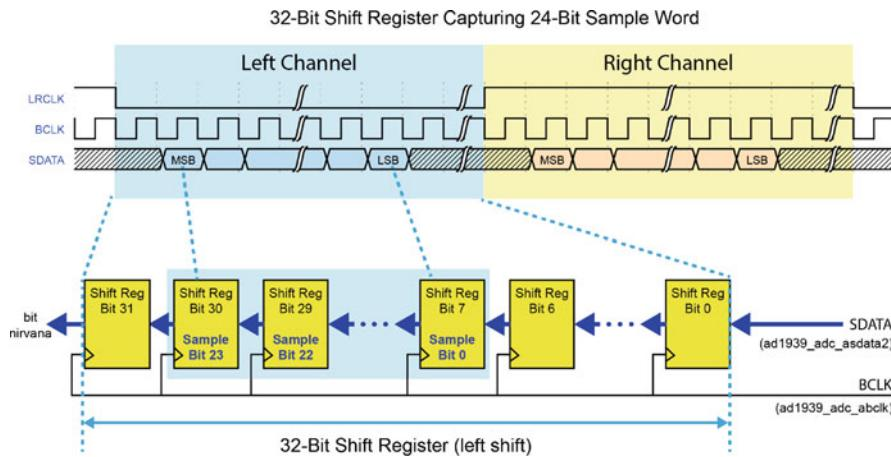
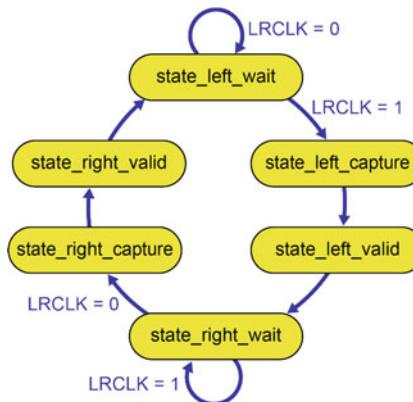

Fig. 1.3: Converting the serial I2S data into parallel 24-bit sample words
Fig. 1.4: State machine used to capture the 24-bit I2S audio words using the LRCLK signal as shown in Fig. 1.3
The first step in processing the I2S serial data coming into the FPGA (see signals in Table 1.1), which is shown in Fig. 1.2, is to perform a serial to parallel conversion of the 32-bit framing window that contains the 24-bit sample word. This is done using a shift register as illustrated in Fig. 1.3. The shift register is configured so that the bits enter from the right side and shift left. Thus, when we capture the 24-bit sample word (by capturing all 32 bits in the left/right framing window), the MSB will be on the left side, i.e., bit 23 of the extracted signal will hold bit 23 of the ADC sample. The shift register is 32 bits since there are 32 BCLK cycles in each of the left and right framing windows that are controlled by the LRCLK framing clock.
It should be noted that the 24-bit signal still has bits shifting through it on every rising edge of the bit clock. The 24-bit word only has the correct bits for the sample word when it is positioned correctly in the 32-bit left/right framing window. This is where the LRCLK signal comes into play (see Fig. 1.3). When the LRCLK clock signal (ad1939_adc_alrclk) transitions from low to high, the 32-bit shift register is full of left data, and this is the time to capture the left sample value. This timing is done by the state machine contained in the AD1939_hps_audio_mini.vhd component, which is illustrated in Fig. 1.4.
As soon as the LRCLK goes high (see Fig. 1.3 and associated VHDL code in Listing 1.5), the state machine transitions immediately through states *state_left_capture* and *state_left_valid*, taking only one system clock cycle for each state. It is in these states that we create the Avalon Streaming signals, which is described in the next section.
When the state machine is in the state *state_left_capture*, it saves the 24-bit sample word into the output signal *ad1939_adc_data* since the 24 bits are correctly aligned in the 32-bit left/right framing window. The output signal *ad1939_adc_data* is the data channel of the Avalon Streaming interface as shown at the bottom of Fig. 1.3, and it keeps this value until the state machine enters the *state_left_capture* again and captures a new value. In the next state *state_left_valid*, the Streaming Interface signals *valid* (1) and *channel* (0 for left) are sent out. The associated VHDL code is shown in Listing 1.6. The state machine then deals with the right channel in a similar manner before repeating the left channel states again.
The parallel to serial conversion is performed by a 32-bit shift register that performs the inverse of the serial to parallel shift register discussed in Sect. 1.2.1.1. The parallel to serial shift register also shifts left since the MSB needs to come out first. However, there is a control signal *load* that when asserted (1) loads the 32-bit word into the shift register. When *load* is deasserted (0), the shift register shifts left each bit clock cycle. It turns out that LRCLK signal (see Fig. 1.3) is exactly what we need for the load signal since we want the load signal to be low during the left frame to shift out the left channel bits. The right channel is done similarly except we need the inverse of the LRCLK signal for the load signal for the right parallel to serial converter.